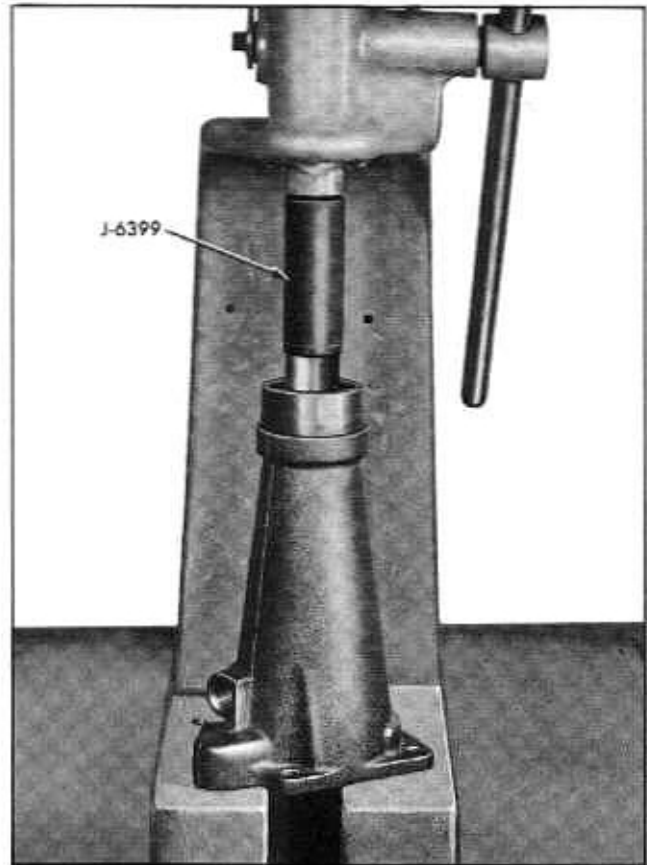

Fig. 7-32 Pressing Bushing into Rear Bearing Retainer
4. Press new bushing into rear of bearing retainer using Tool J-6399 (Fig. 7-32).